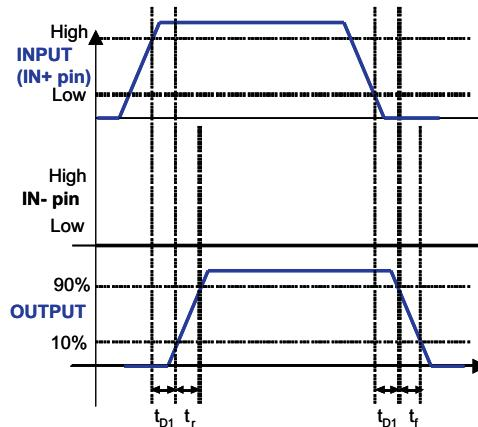
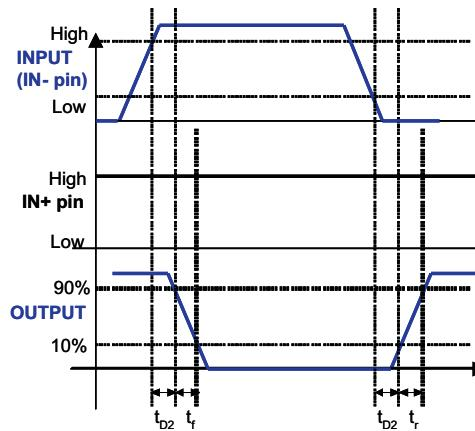
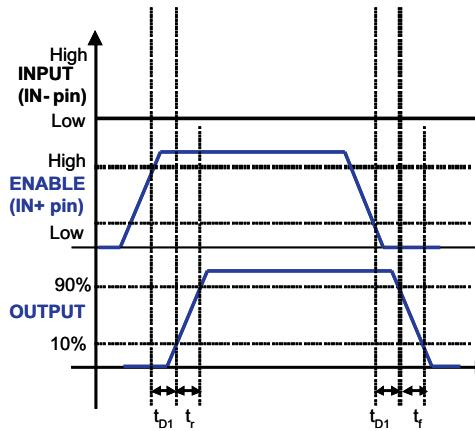

Figure 1. Non-Inverting Configuration
Figure 2. Inverting Configuration
Figure 3. Enable and Disable Function Using IN+ Pin
(3) See timing diagrams in Figure 1, Figure 2, Figure 3 and Figure 4.